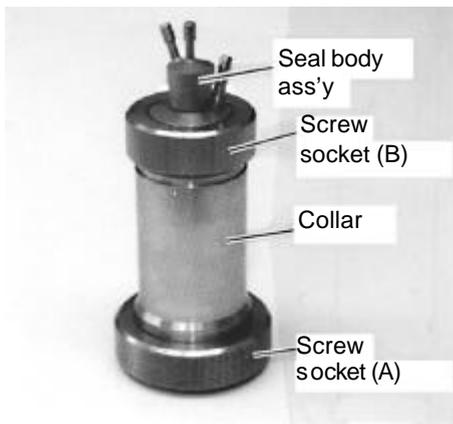

Fig. 9 Assembly of seal body
The screw sockets (A) and (B) fasten the seal body assembly and collar (see Fig. 9 and 10).